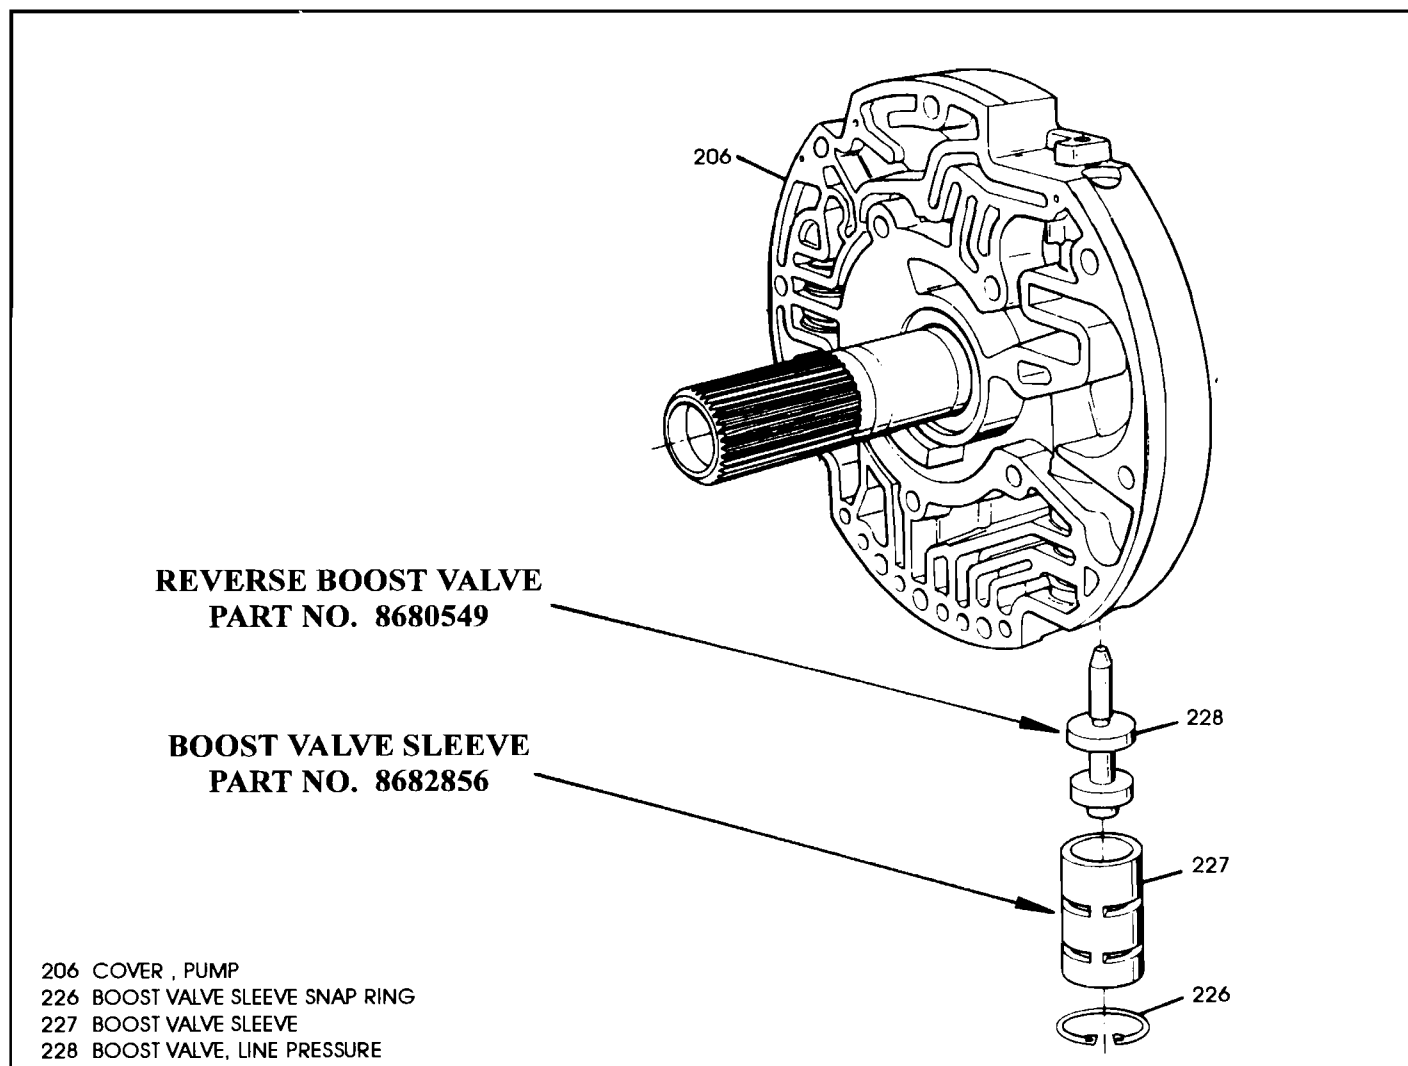

Figure 65
**CORRECTION:** Replace the Boost Valve and/or Boost Valve Sleeve, as necessary (See Figure 65). Parts are currently available from G.M. Service Parts, and part numbers are listed below.